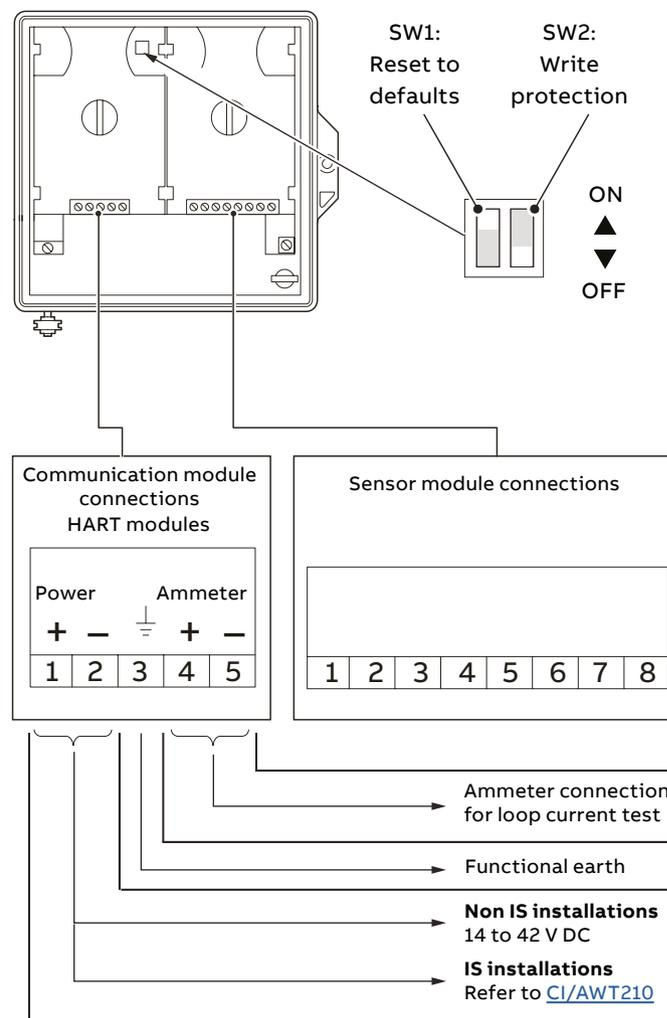

Figure 1 HART communication module connection overview
- The device has two internal switches, situated on the top right side of the HART Communication Module – see Figure 1.